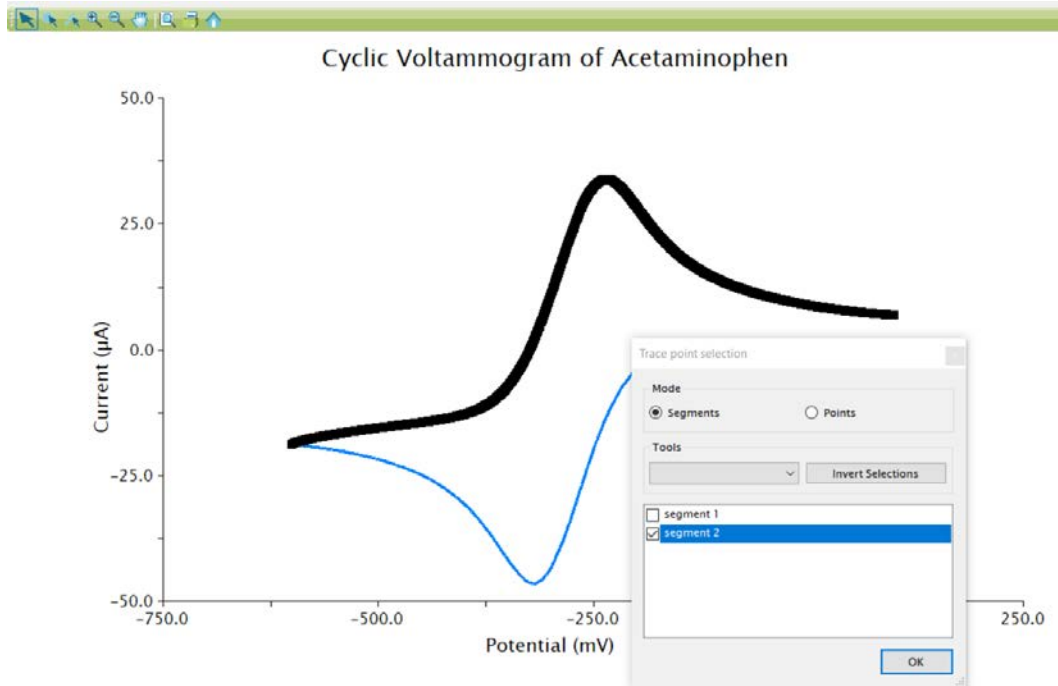

Figure 2-1. Selection of Only One CV Segment in AfterMath
If your data are a multiple segment CV (see: Figure 2-1), extract only the one segment of interest.
3. Select the "Segments" radio button, then choose the segment you want to convert to a Tafel plot. Notice that doing so will highlight only the data for the chosen segment (see: Figure 2-1).